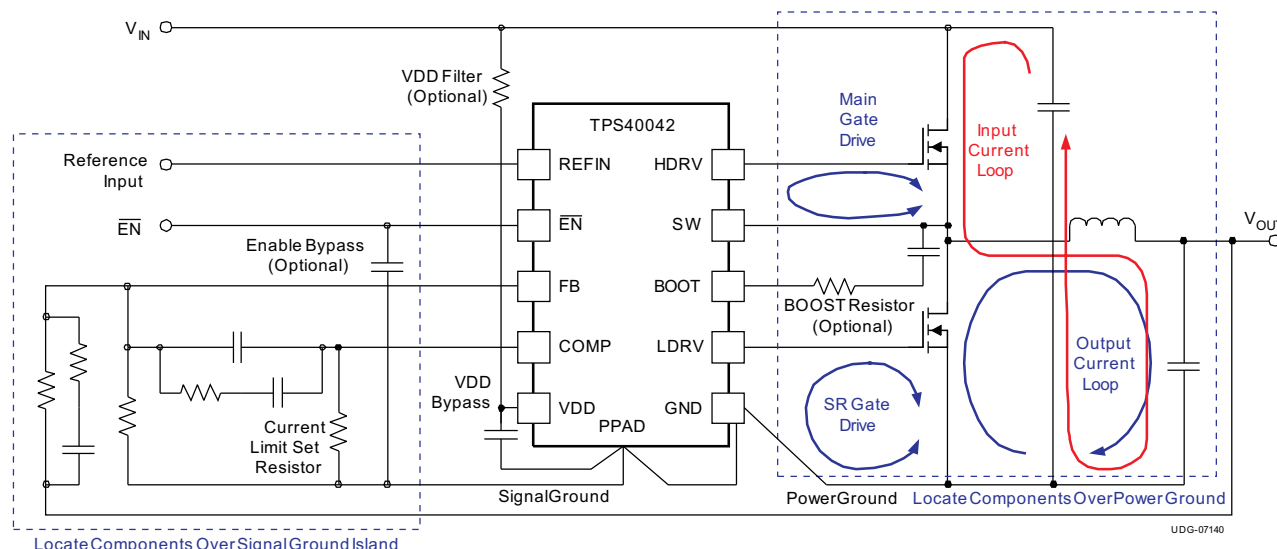

Figure 18. Synchronous BUCK Power Stage
As shown in Figure 18, the input current loop contains the input capacitors, the switching MOSFET, the inductor, the output capacitors, and the ground path back to the input capacitors. To keep this loop as small as possible, it is good practice to place some ceramic capacitance directly between the drain of the main switching MOSFET and the source of the synchronous rectifier (SR) through a power ground plane directly under the MOSFETs.